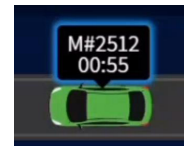

Fig. 5.6
**Geofence Dashboard Options:** These appear in a dialog label next to the associated vehicle displayed on the Dashboard. A geofence label has a neon blue border around the label (see Fig.5.6) to distinguish it from a standard label that does not have this border.